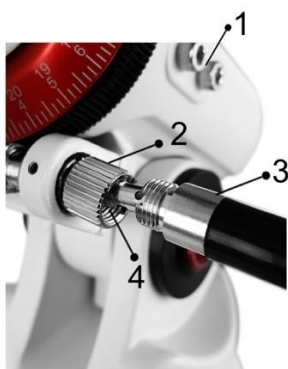

Figure 2
1. First disconnect the flexible shaft (3, Fig. 2) from the shaft of the RA worm gear drive by loosening the union nut (2, Fig. 2) and pulling off the flexible shaft.
2. Pull out the small roll pin (4, Fig. 2) fitted through the worm shaft with a small pair of pliers and remove the union nut as well.
3. Remove the two mounting screws (1, Fig. 2) from the housing of the mount. Align the tracking motor with its mounting bracket with the threaded holes of the mounting screws and at the same time push the shaft coupling onto the shaft of the RA drive screw.